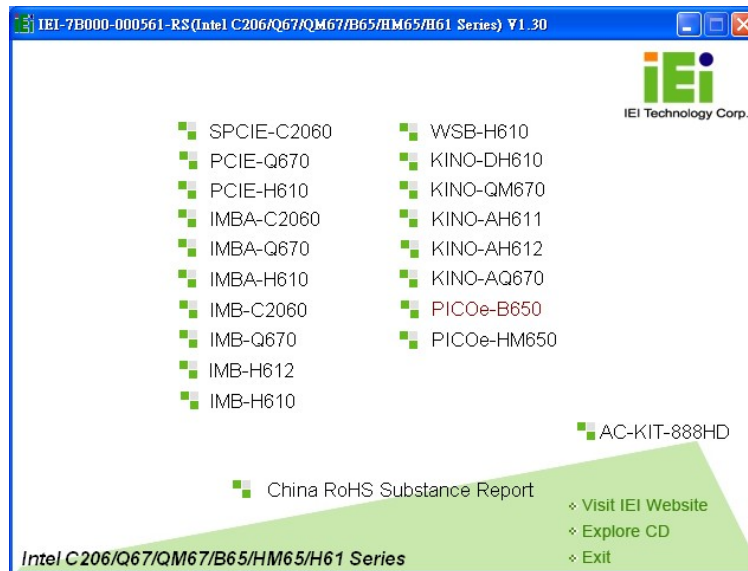

Figure 4-17: Introduction Screen
Step 2: The driver main menu appears (**Figure 4-17**).